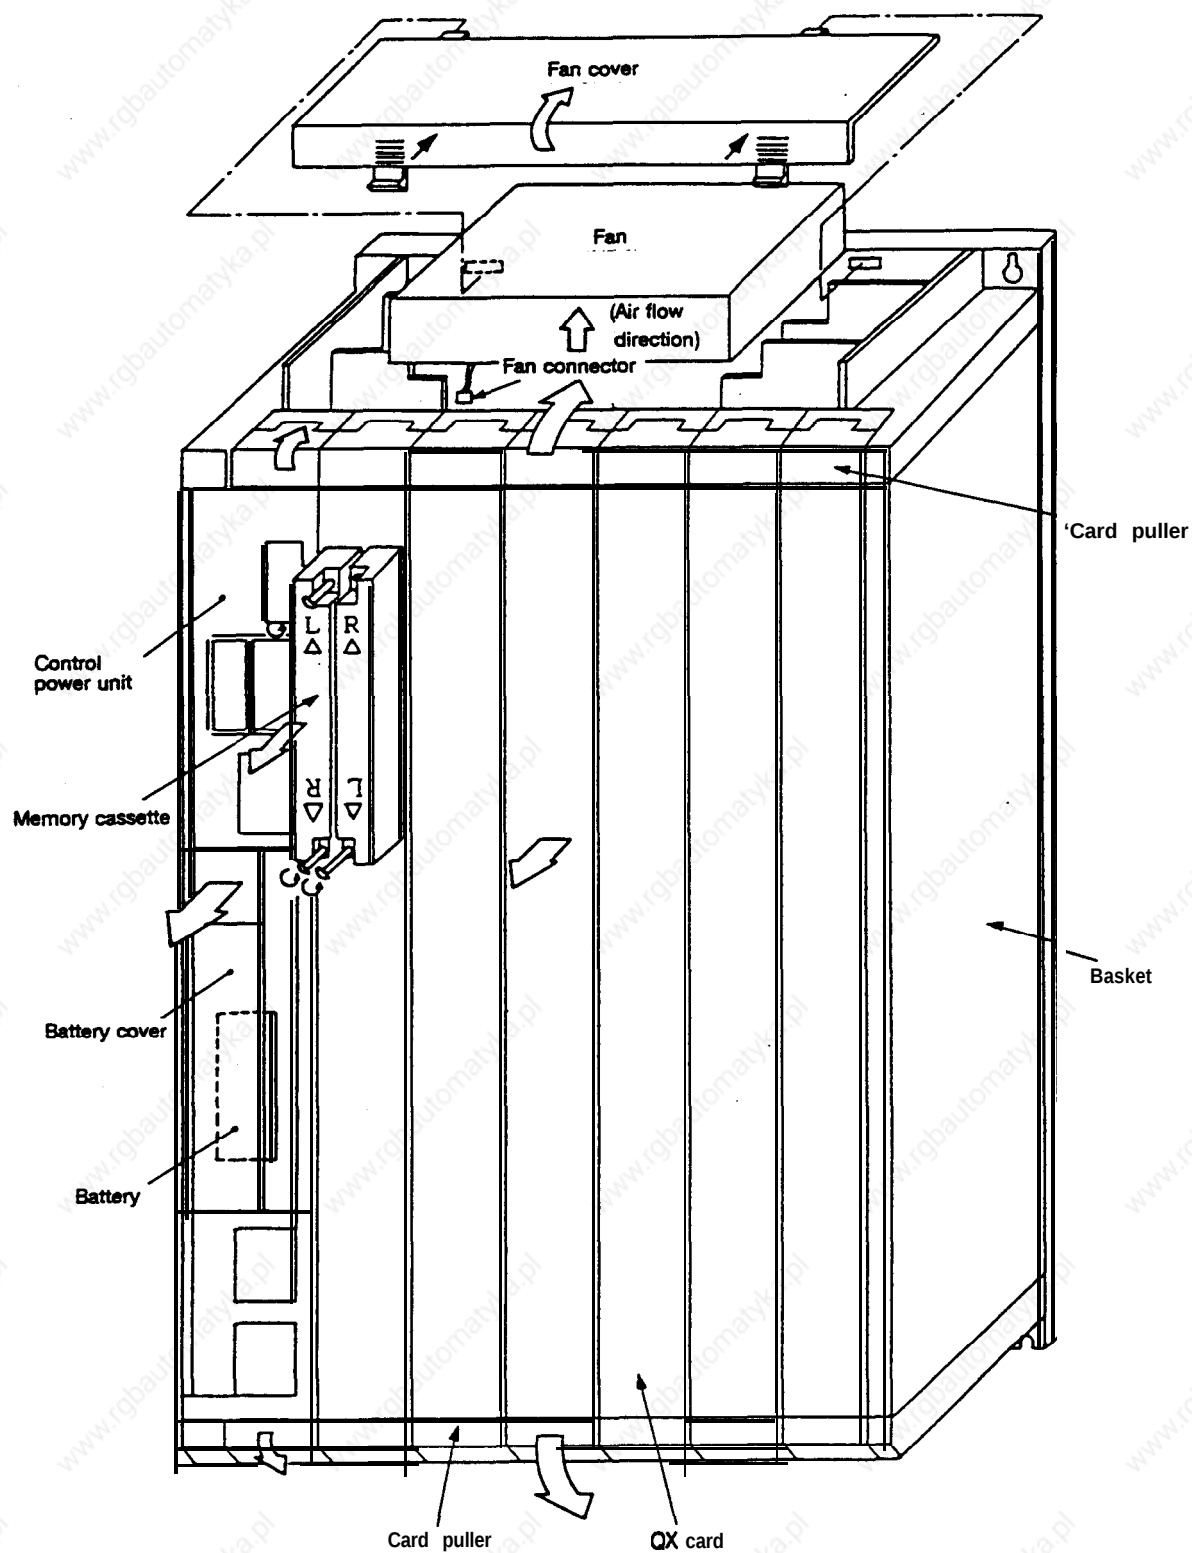

Fig. 3.6 Control unit replacement procedure drawing
The procedure for replacing the control unit is shown in Fig. 3.6.
- (5) For the following type of connector, pull out the connector while pressing it in the direction of the arrows.
- ② When the upper and lower card pullers are opened into the direction of the arrow shown in Fig. 3.6, the QX card will protrude slightly, and can be pulled out.
- ③ When mounting a new QX card, slide the card into the back along the guide groove on the basket. The card name is indicated on the basket, so make sure that the card is inserted into the correct slot.
- ④ Close the card lock.
- ① Loosen the two screws fixing the memory Cassettes, and remove the card from the memory card unit.
- ② Release the claws from cassette case A while pressing down on the notch on the front of cassette case B.
- ③ Remove cassette case B from cassette case A .
- ④ After lifting up the front end of the memory card, pull the connector side end from the cassette case A groove.
- ⑤ When mounting a new memory card, follow steps ① to ④ in reverse.